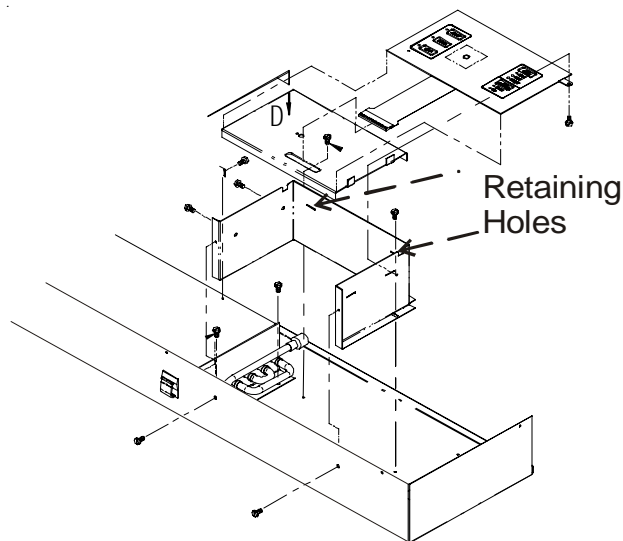

Figure 9
6. Remove the two screws mounting the control box to the front of the top assembly and the two screws mounting the control box to the inside bottom of the top assembly. (See Figure 9.)